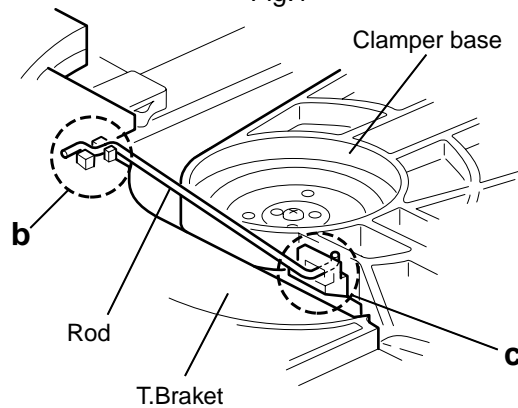

Fig.2
■ Removing the CD tray assembly (See Fig.2~9)